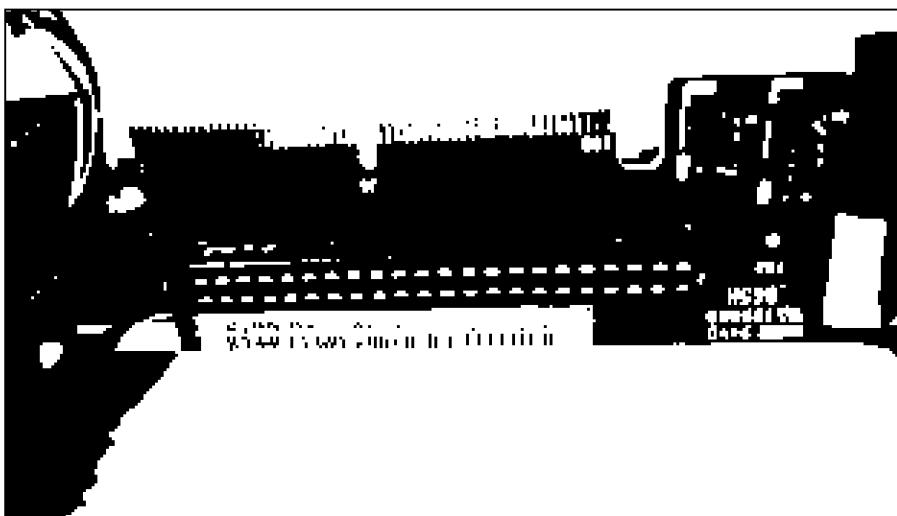

Figure 7-10:
1. With the circuit-board side of the hard drive facing up, align the connector pins of the hard drive to the black connector on the interconnect board, shown in Figure 7-10.
- 4. Connect the fan and speaker cables to connectors on the interconnect board, as shown in the upper-right corner of Figure 7-10.**